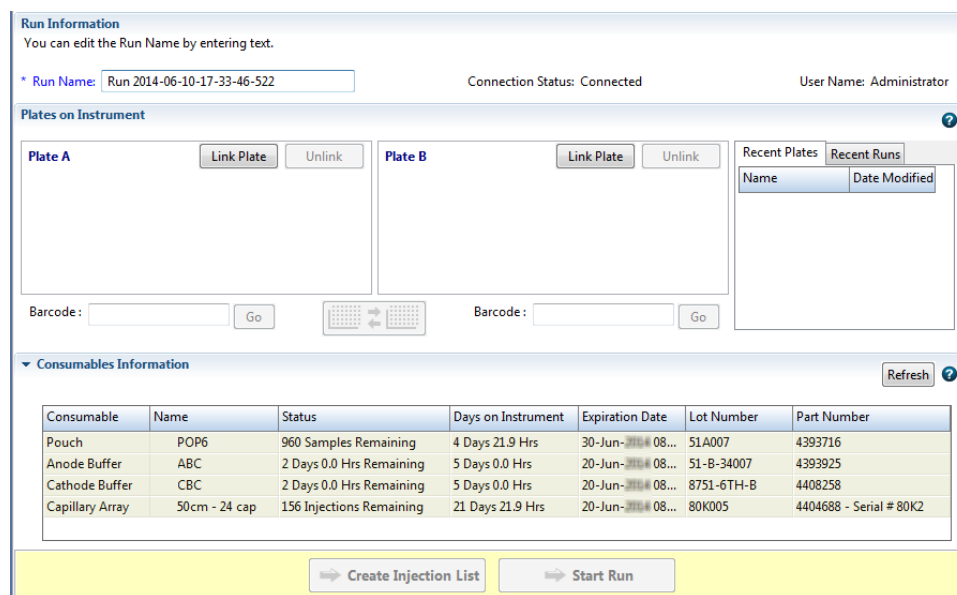

Figure 5 Load Plates for Run
1. Access the **Load Plates for Run** screen (Figure 5) from: